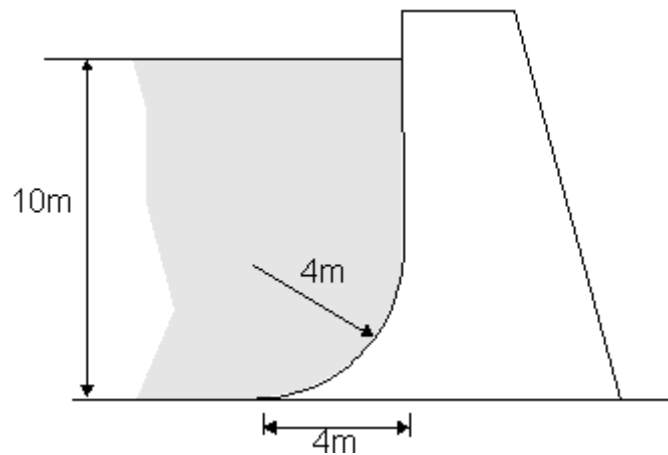

Figure 2
1.b A second design for the same dam has the cross-sectional profile composed of a vertical face with a circular curved section at the base as shown in Figure 2. Calculate the resultant force and its direction of application per unit width of this dam.